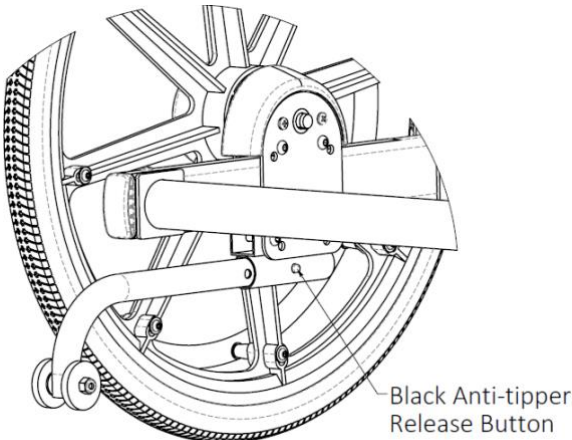

Figure 15.34: *Installing rear anti-tip*
- 1. Press and hold the release button on the anti-tipper tube. (See Figure 15.34)